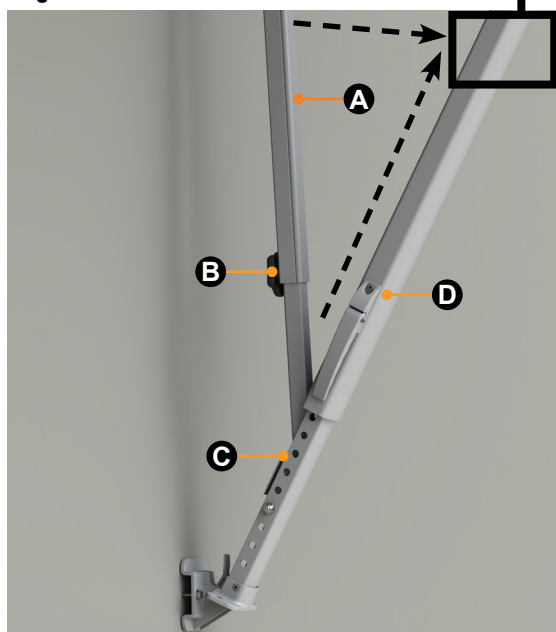

Fig.16
5. Slide the bottom of the support arms (Fig.16A) all the way to the top of the outer arm (Fig.16) and make sure they lock into place at the top of the outer arm.